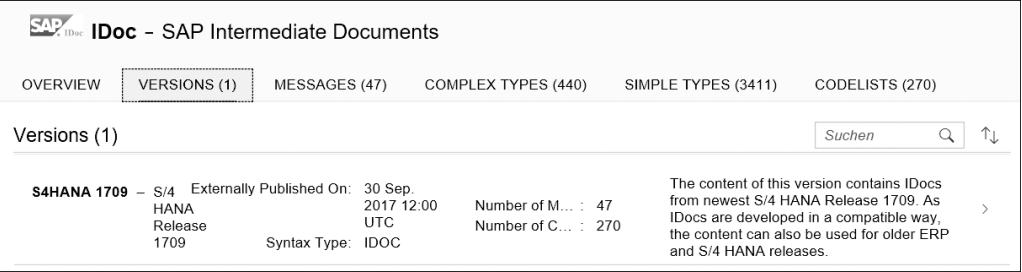

Figure 7.5 Versions for the SAP IDoc Type System
4. In the **VERSIONS** tab, all available versions in the SAP IDoc type system are shown (Figure 7.5). As mentioned already, the only version in the SAP IDoc type system available at the time of publishing this book is **S/4HANA Release 1709**.